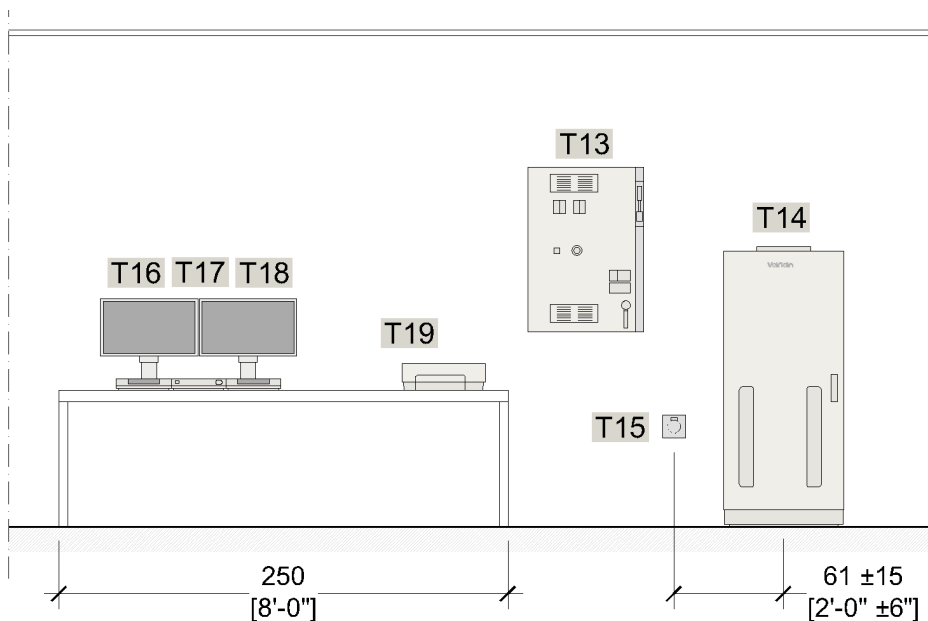

Figure 3-8 Generic Control Console Layout
Figure 3-8 is a generic layout, component positioning may vary per site-specific conditions, consult with the Customer on the desired layout, and if any additional space is required.
- (1) IEC 60309 outlet, blue, 30-32A connector.
- 1-phase, N, and G see Figure 3-8 and Figure 3-9.
- (1) Standard power outlet for the Printer (T19).